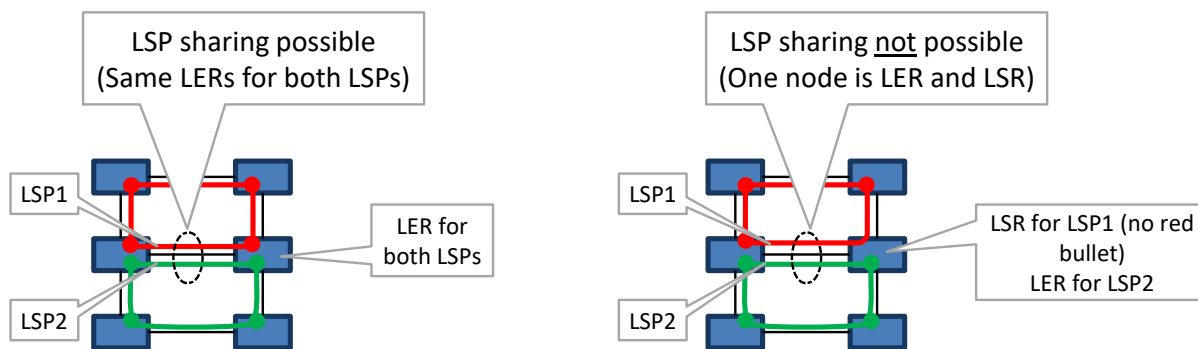

Figure 22 LSP Sharing Possible?
- ▶ Logical Ring/Subring: reusing resources is more performant than not reusing resources, especially when multiple tunnels go over the same link. Reusing resources = reusing existing LSP labels from existing tunnels. Per link between two nodes, you can decide whether to share your new tunnel with other existing tunnels. This can be done via clicking the appropriate radio buttons or selecting the desired tunnel(s) to share with via the tunnel/link drop-down lists. By default, sharing is activated per link if any other tunnel is already available in this link. Sometimes, sharing is not possible, see Figure 22.